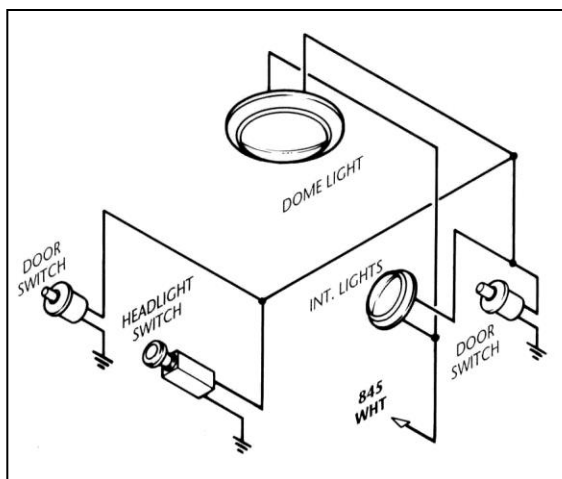

Figure 6.7 Interior Lighting
6.2.7 Interior Lighting. See Figure 6.7.